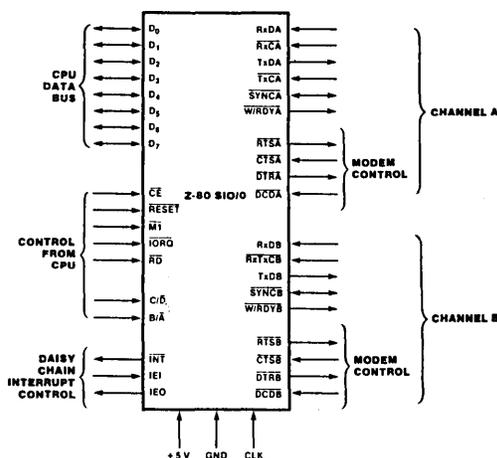

Figure 5. Z-80 SIO/0 Pin Functions
**Asynchronous Modes.** Transmission and reception can be done independently on each channel with five to eight bits per character, plus optional even or odd parity. The transmitters can supply one, one-and-a-half or two stop bits per character and can provide a break output at any time. The receiver break-detection logic interrupts the CPU both at the start and end of a received break. Reception is protected from spikes by a transient spike-rejection mechanism that checks the signal one-half a bit time after a Low level is detected on the receive data input (RxDA or RxDB in Figure 5). If the Low does not persist—as in the case of a transient—the character assembly process is not started.